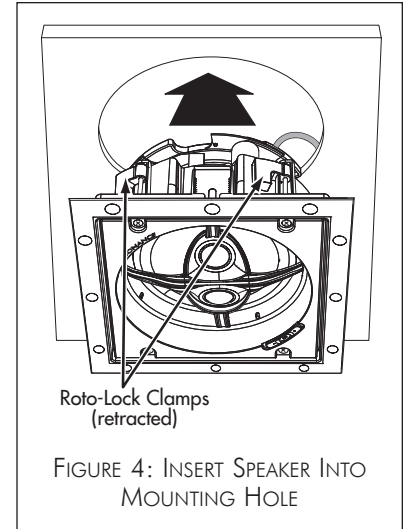

FIGURE 4: INSERT SPEAKER INTO MOUNTING HOLE
5. Make sure all the Roto-Lock clamps are in the full clockwise position so that they are tucked within the mounting hole's border. Insert the speaker into the hole in the wall or ceiling (Figure 4). The Roto-Lock system can accommodate a maximum wall or ceiling material thickness of 1 1/4" (32mm).